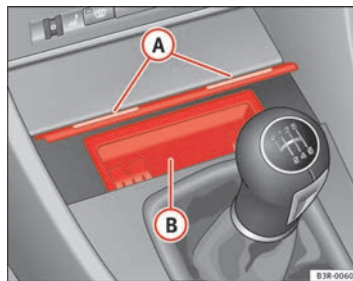

Fig. 124 Centre console: Open ashtray
- Lightly press the front part of the ashtray (A) ⇒ fig. 124.
- Take hold of the sides of the ashtray (B) ⇒ fig. 124 and lift it out. ►